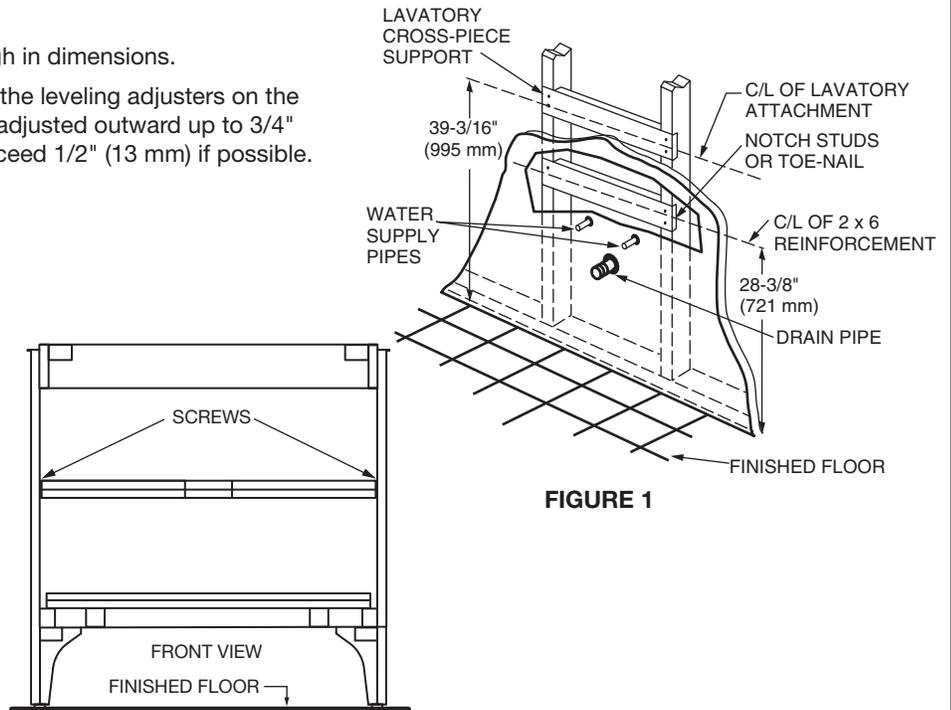

FIGURE 1
- Provide suitable reinforcement required for anchoring the vanity to the wall. Centerline of reinforcement should be 28-3/8" (721 mm) up from the floor. **Figure 1**